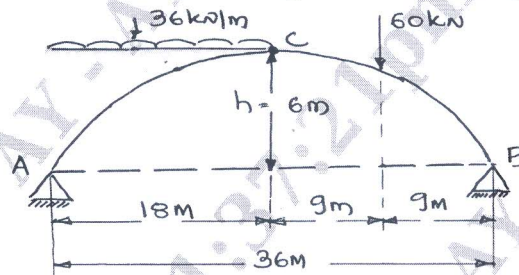

Fig.Q10(a)
- 10 a. A three hinged parabolic arch is loaded as shown in Fig.Q10(a). Determine the reactions at supports, normal thrust, radial shear and bending moment at left quarter span of the arch.